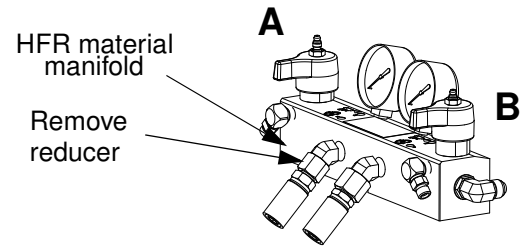

FIG. 16: Material Manifold
- c. Remove reducer fitting from the A (Red) connection of the HFR fluid manifold. Install FTS in the A (Red) material supply line between main hose and whip hose. Ensure the FTS is facing toward the fluid flow of material after installation. See Heated Hose manual for instructions. Refer to FIG. 15 and FIG. 16.
- d. Remove reducer fitting from B (Blue) connection of the HFR fluid manifold (Models 24N573, 24N574 only). Install the provided additional spacers near the location of the FTS for the remaining material lines. Refer to FIG. 15 and FIG. 16.